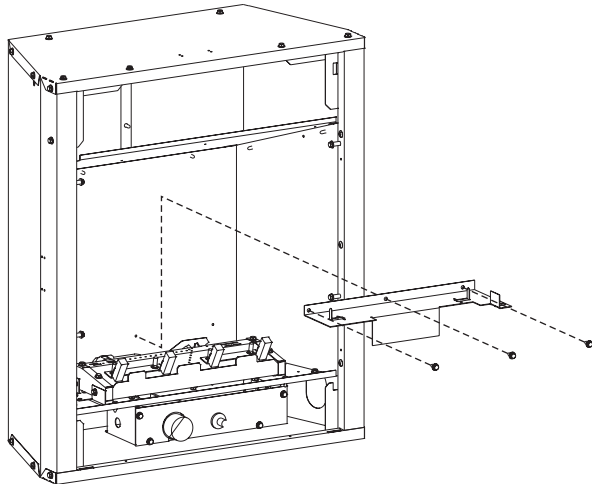

Figure 25
4. Remove rear log support from inner casing (three 10 x 1/2" screws). See Figure 25.